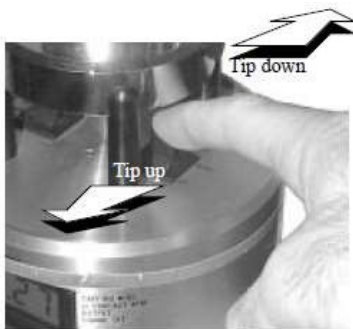

Figure 10. The tip is quickly raised and lowered using the Up / Down toggle switch on the MultiMode AFMM's base.
4. **Put sample/holder onto scanner.** The strong magnetic force will hold it tightly. Focus the microscope on the sample surface. Using tweezers to move your sample until you find an area that you want to scan. If you need to **enlarge the gap**, push, and hold the switch on the right side of the microscope base in the **Up position** (Figure 10). Release the switch when the gap is large enough.